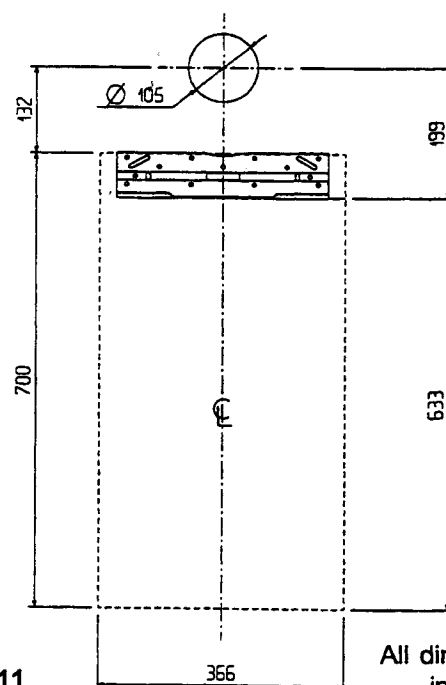

Fig. 11
5.4 MOUNTING THE APPLIANCE (Ref. Fig.11)
5.4.1 Place the template on a smooth, vertical, non-combustible surface and use it to locate the upper bracket, bottom fixing and flue pipe hole (concentric horizontal only). Alternatively, position bracket and holes to dimensions in Fig. 11.
Refer to fig. 11 and figs. 12 - 16 for relevant dimensions for locating the hole. Where it is remote from the boiler take special care to ensure the hole is at the correct level so that the finished flue is horizontal.